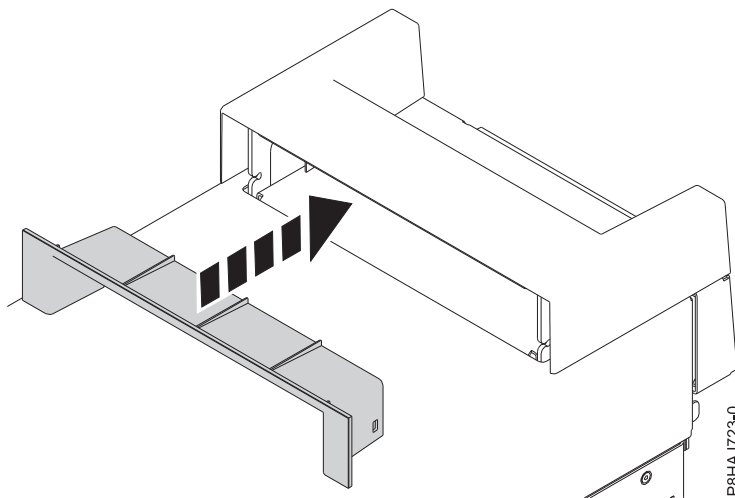

Figure 34. Inserting the piece within the handle cover on an 8286-41A stand-alone system
2. Insert the piece within the handle cover by pushing it firmly into the handle cover as shown in Figure 34.